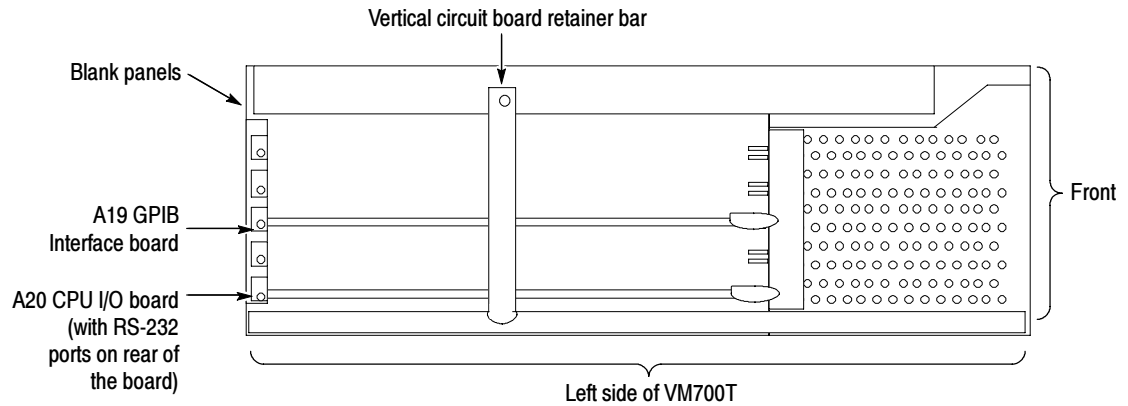

Figure 16: Locating the circuit boards in the left-side card cage
2. Remove the blank panel in the number three position (from the top) in the rear panel and install the GPIB circuit board assembly (A19) in that position as shown in Figure 16.